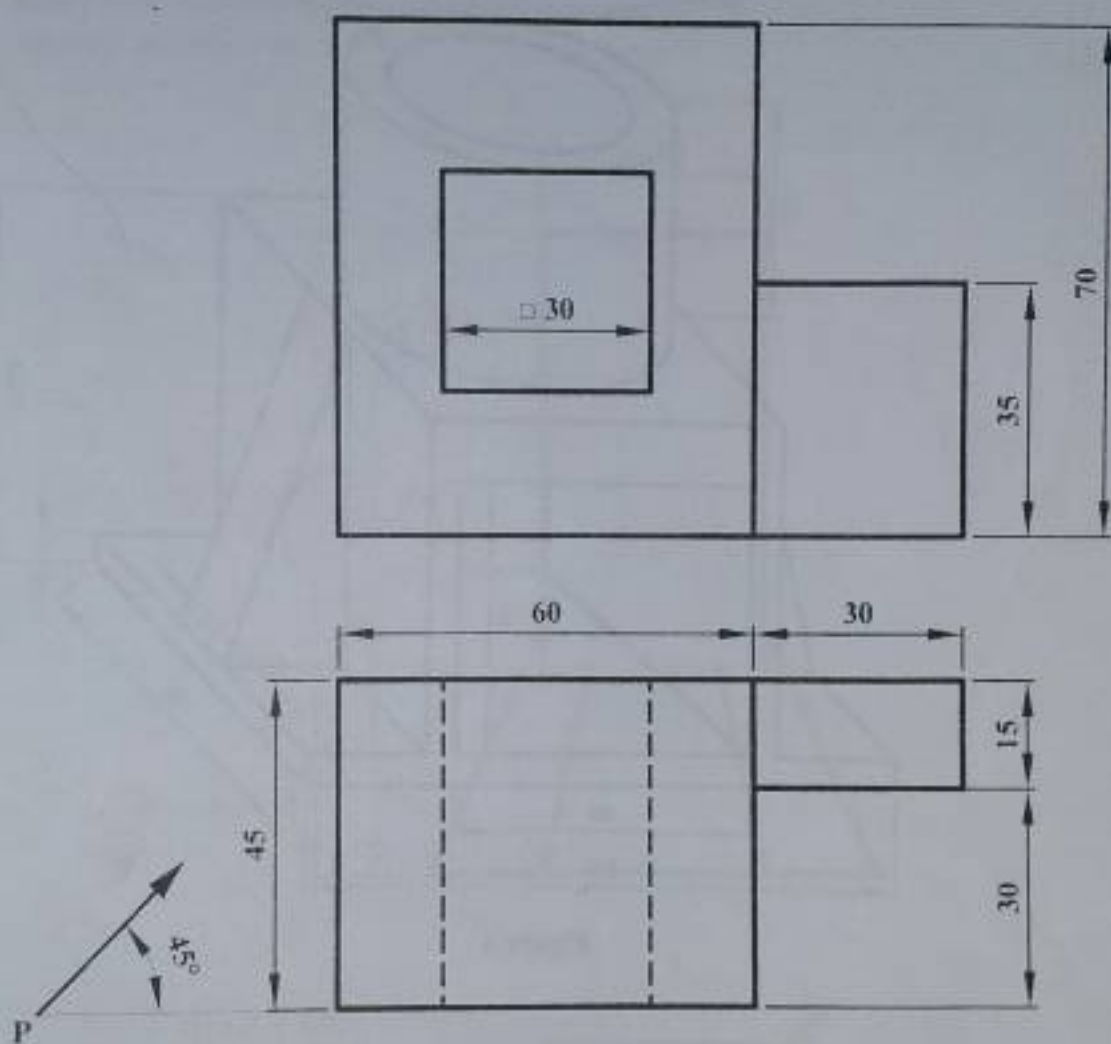

Figure 2
2. Figure 2 shows two orthographic views in first angle projection.